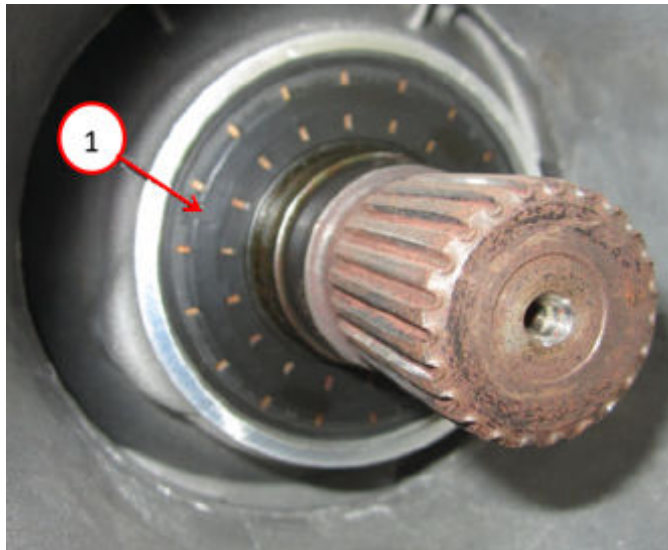

Fig. 51
75. Position the **NEW** output shaft seal over the output shaft and against the transmission case Fig. 51.